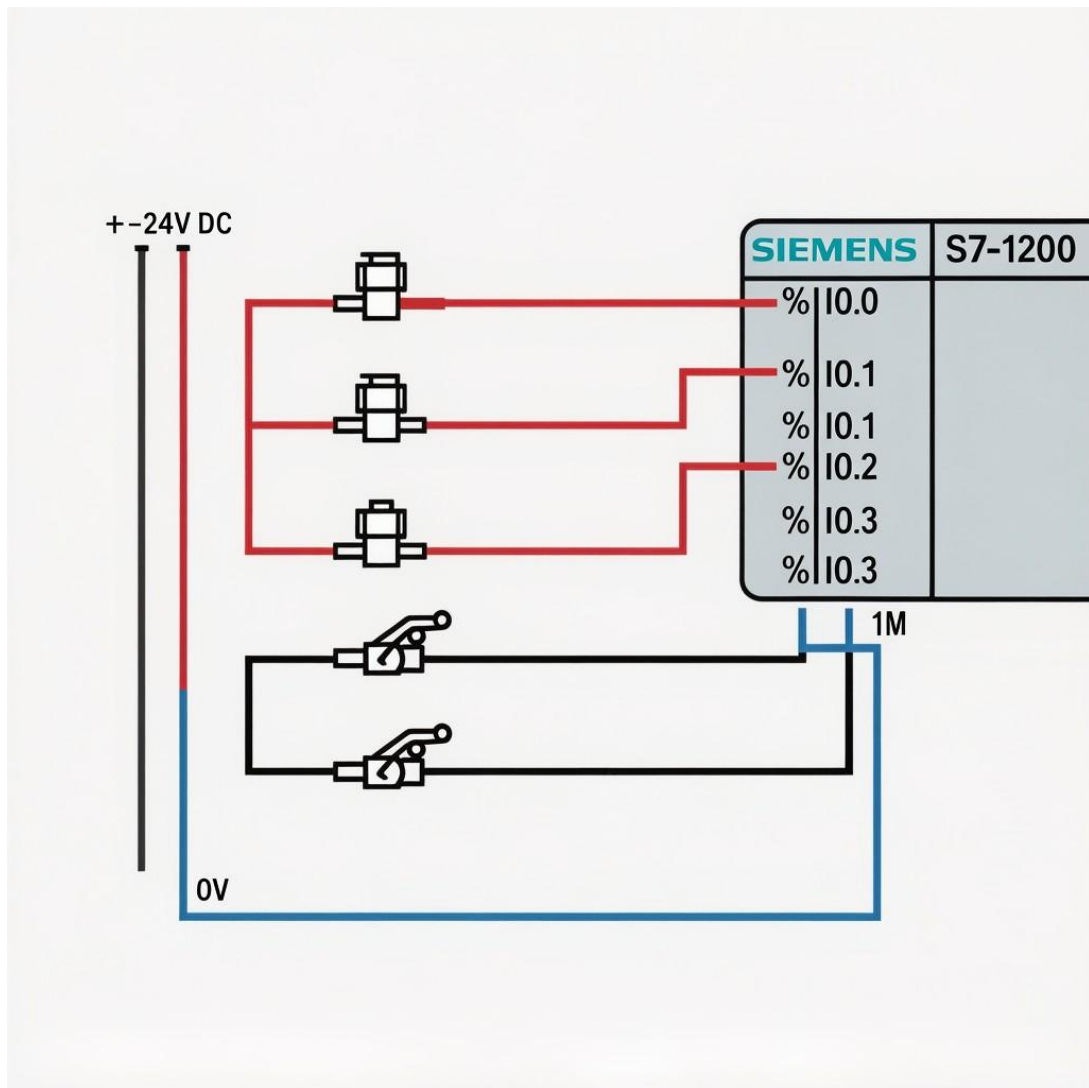

Figure 7.1: Wiring diagram for pushbuttons and limit switches to the S7-1200 DI module.
**1. Input Wiring (PLC Senses)** All input devices—pushbuttons, switches, and sensors—are the "senses" of the PLC. They are wired to the PLC's Digital Input (DI) terminals. When an input device is activated (e.g., a button is pressed), it completes a circuit, sending a 24V DC signal to its corresponding input terminal. The PLC's CPU reads this signal as a logical '1'. Figure 7.1 shows the standard "sinking" input wiring for the S7-1200, where the input devices switch the positive 24V to the PLC inputs.